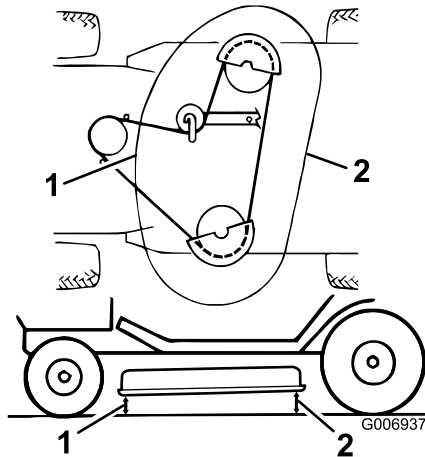

Figure 49
9. Check the front-to-rear slope by measuring between the bottom of the mower (front center and rear center) and the flat surface (Figure 49). If the front is not within a range of 1/8 to 3/8 inch (3 to 10 mm) lower than the rear, an adjust it.